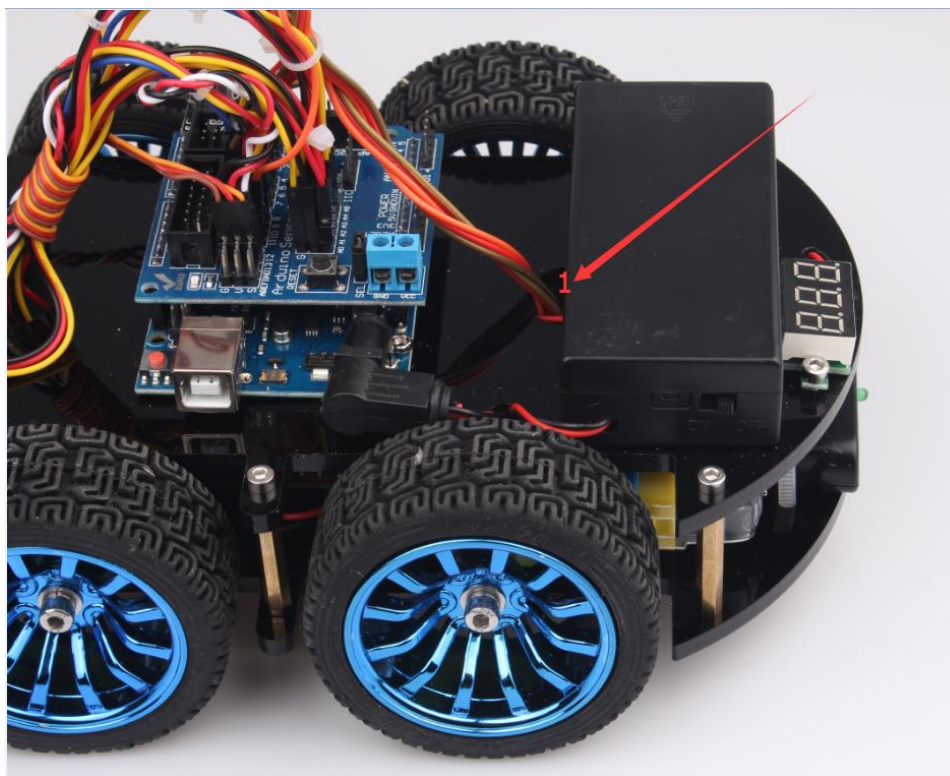

Figure 3.2.57 Wire Connection Diagram
- 3、Lead the wire according to the hole marked “1” in Figure 3.2.57, and connect the wire to the Arduino expansion board with reference to Figure 2.3.58. After the completion, as shown as Figure 2.3.57.